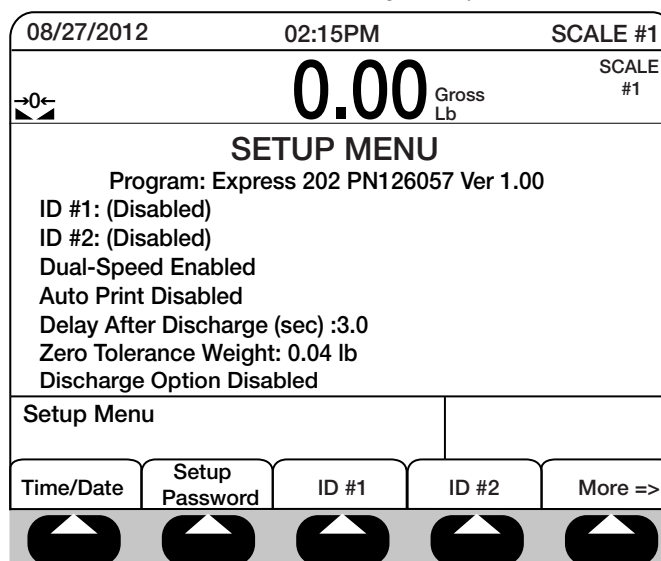

Figure 3-5. Setup Menu Main Screen
- If no system password is stored, setup menu will be displayed (see Figure 3-5). Proceed to next section.
1. From the main setup menu screen, press **More =>** to access the next menu screen (shown in Figure 3-5).